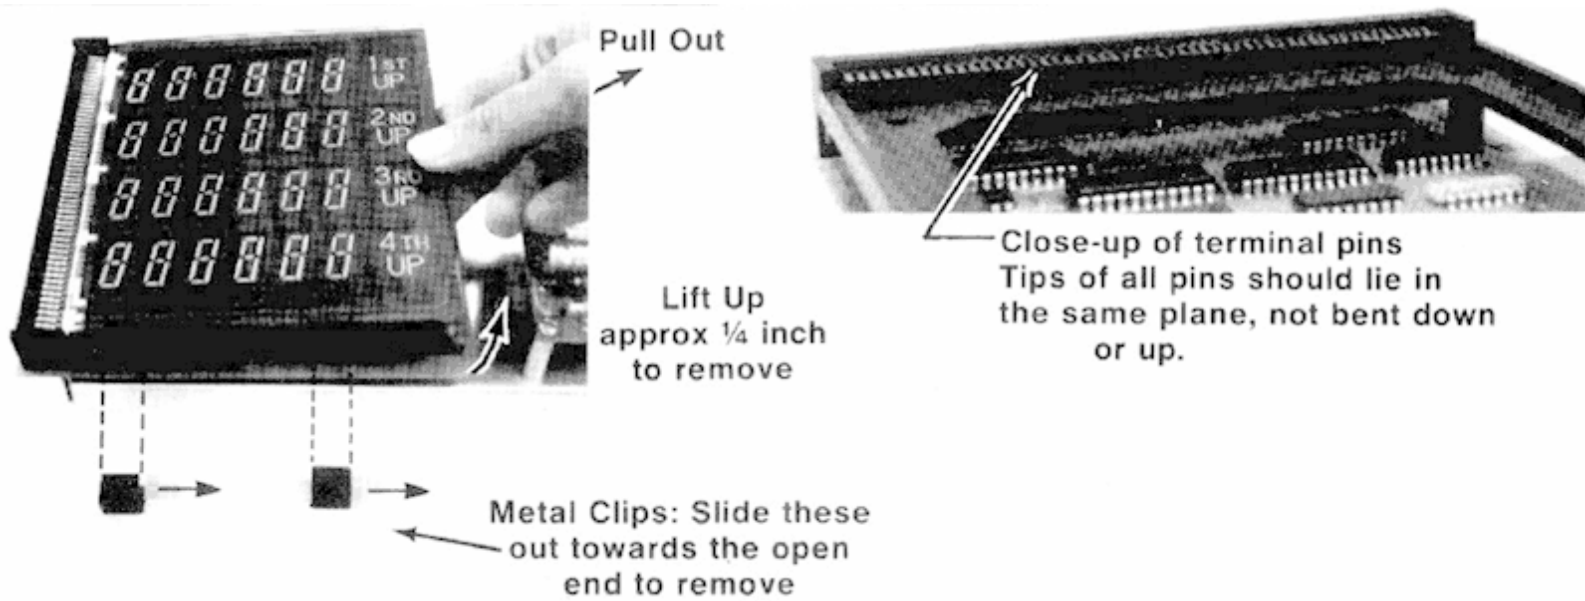

Figure 17: Removal of Score Panel
2. Remove the metal clips holding the score panel onto the bracket arms of J21 (refer to Figure 17).
4. Examine the positions of the terminal pins on J21. Tips of the pins should be aligned in the same plane, as shown in the detail view of Figure 17. If not bent out of alignment, all pins can then make contact with the score panel's terminal strips when the panel is plugged in.